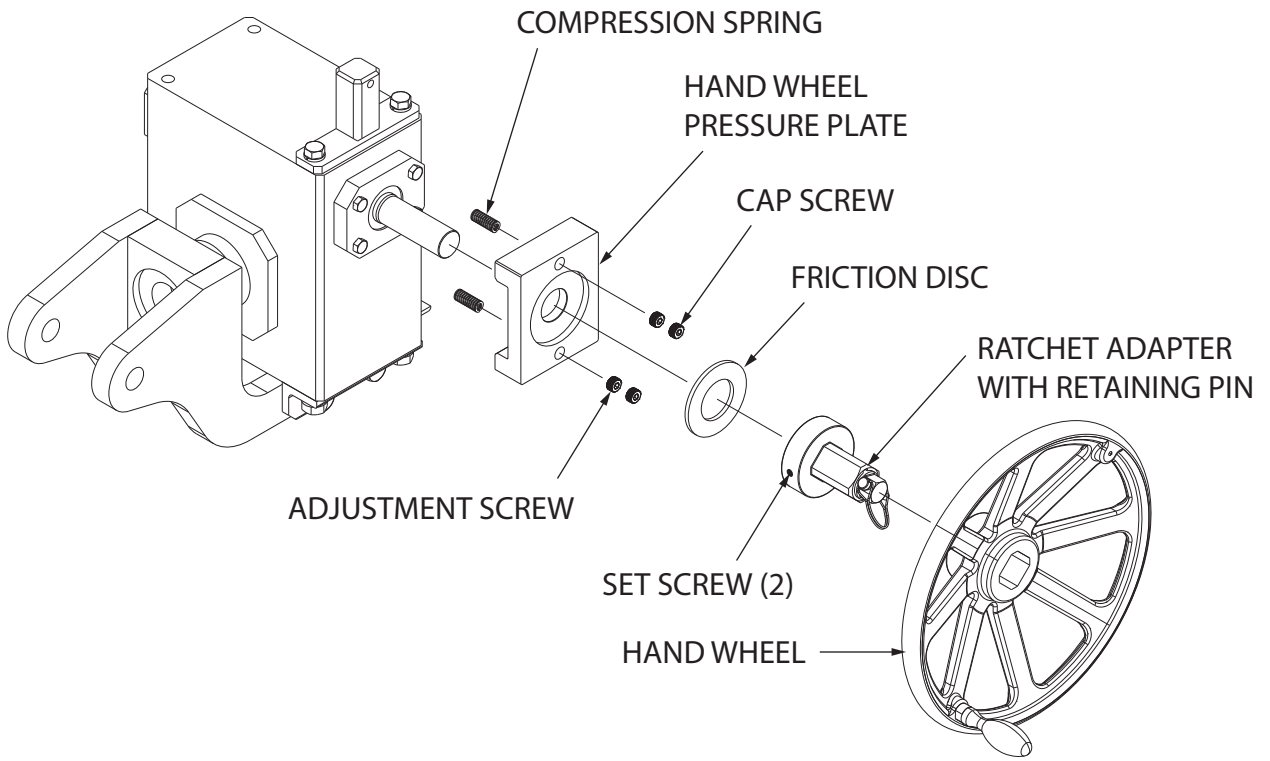

Figure 4.5-1
The inspection and maintenance of the roll operation friction disc clutch (Figure 4.5-1) should be made before each use. All four (4) safety pins (IPB Fig. 1 - Item 6) should be installed to prevent cradle rotation. Install wood blocks at the free end of the jack screw tube brace to maintain the jack current position. Then free the jack screw nut assembly to travel by removing four (4) screws, four (4) lock washers (IPB Fig. 2 - Items 16 and 17) and the two (2) pivot pins (IPB Fig. 2 - Item 3). Rotate the jack screw hand wheel one to two turns and note the amount of force required. The force required to overcome the friction clutch and turn the hand wheel should be approximately 10 to 15 lbs. (45 to 67 N). Inspection and adjustment of the friction clutch assembly is required if there is little or no resistance felt when the hand wheel is rotated.